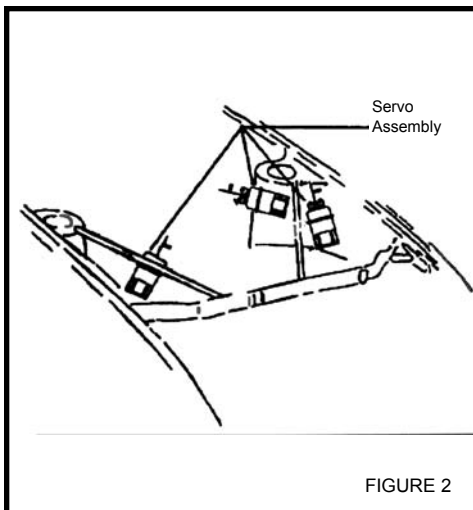

FIGURE 2
2. Once you have confirmed that the **HARNES ASSEMBLY** and the **CABLE ASSEMBLY** will reach their respective locations, mount the **SERVO ASSEMBLY** in the spot you have selected with Screws provided in the kit. **(Figure 2)**